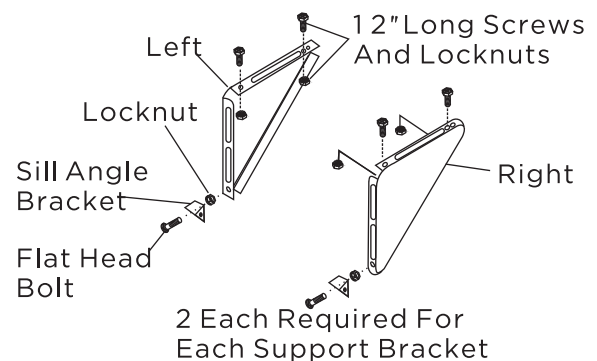

Fig.15B
- Assemble sill angle bracket to support brackets at the marked position (Fig.15B). Hand tighten, but allow for any changes later.